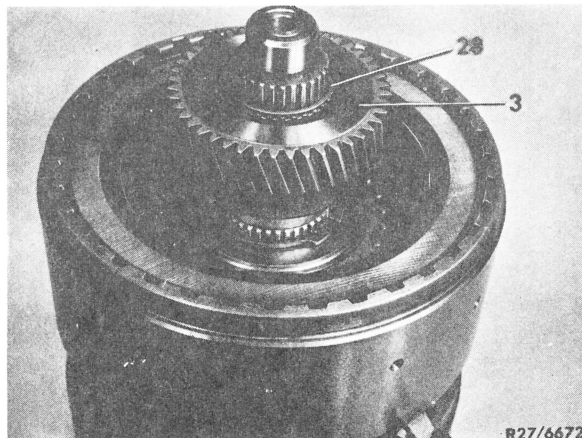

Fig. 26
40 Place sun gear (3) on hollow shaft and insert needle bearing (28) (Fig. 26).